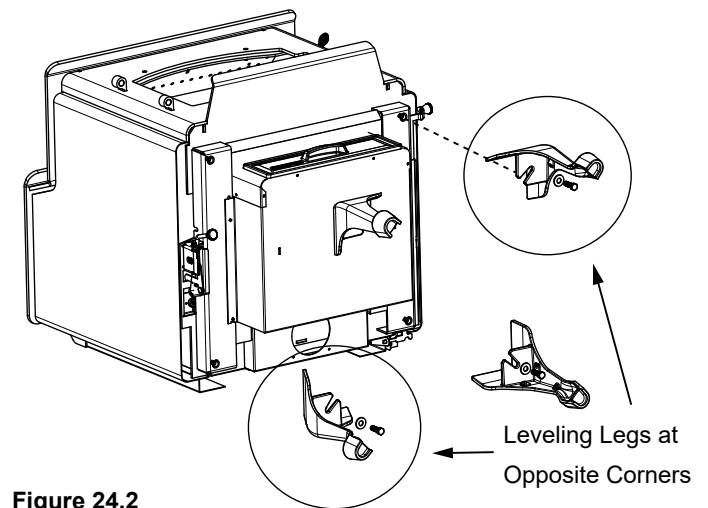

Figure 24.2
- Install legs onto leg brackets making sure the legs are up against the bracket and secure with bolts and washers using a 3/8 open end wrench (**Figure 24.2**).
- Install leveling bolts into 2 legs; these leveling legs should be in opposite corners (**Figure 24.2**).